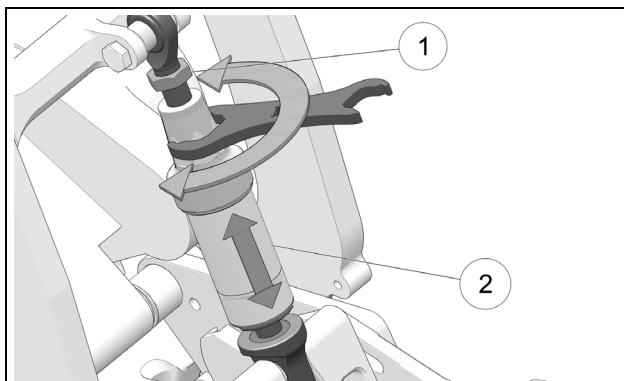

Figure 40
- One complete **counterclockwise** rotation of the Soft Strut shortens it by **0.050"** (1,27 mm). The rear measurement (Y) will then increase **0.050"** per rotation.
- One complete **clockwise** rotation of the Soft Strut lengthens it by **0.050"** (1,27 mm). The front measurement (X) will then increase **0.050"** per rotation.
- Loosen the rod end lock nut (1). Adjust length of rod end by rotating the Soft Strut (2) using the provided tool. See Figure 40.